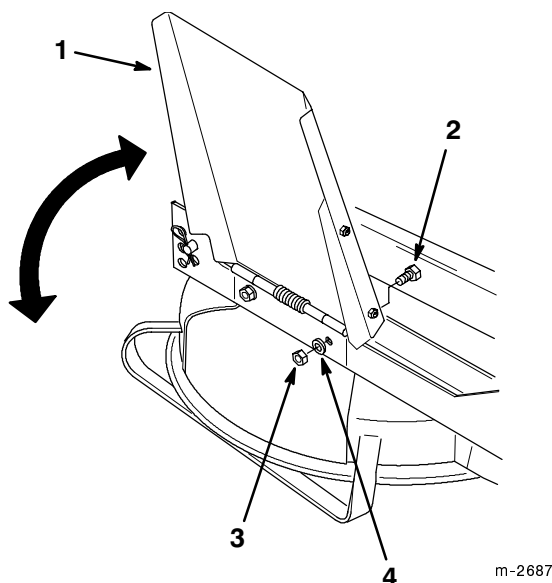

Figure 31
4. Install the discharge deflector onto the right side of the deck using the hex head bolts, flat washers and locknuts and removed in step 3 above (Fig. 31).